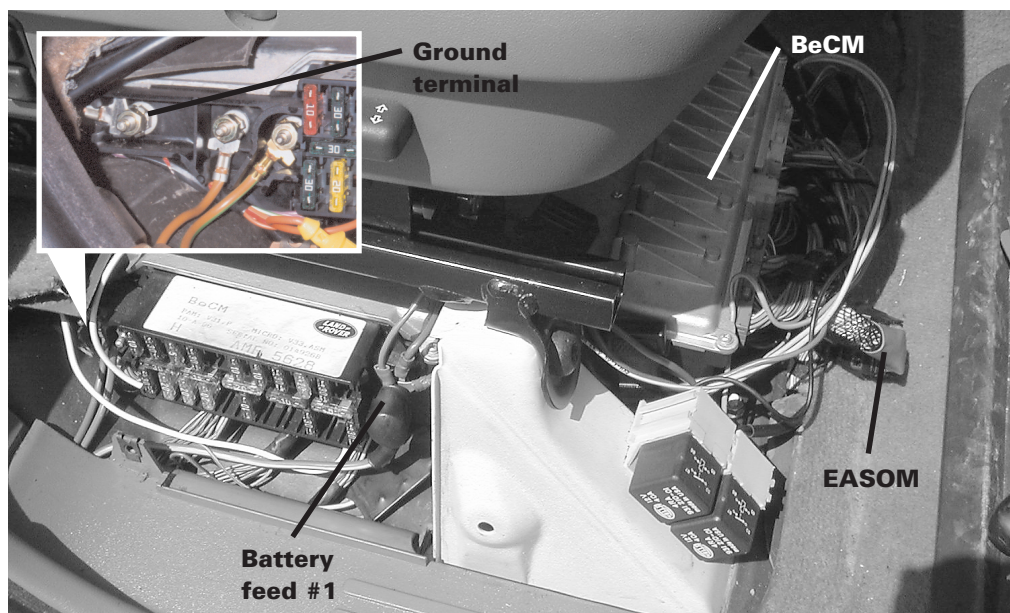

Figure 5 - Passenger side seat
9. Remove the lower seat facia surrounding the right front seat: Remove the fuse door and the screw retaining the facia. (figure 5)